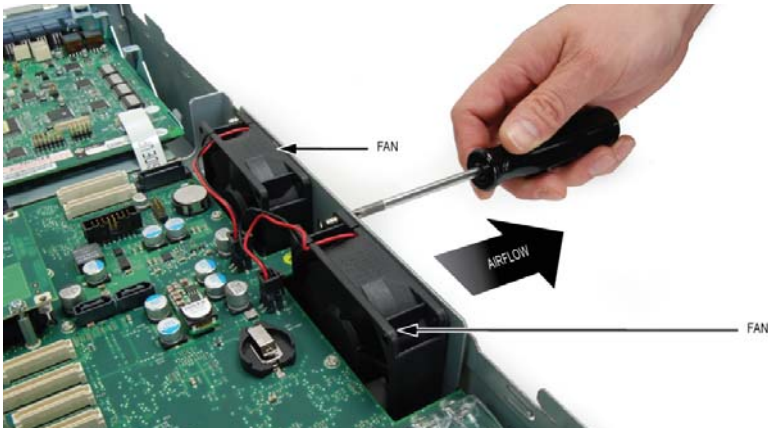
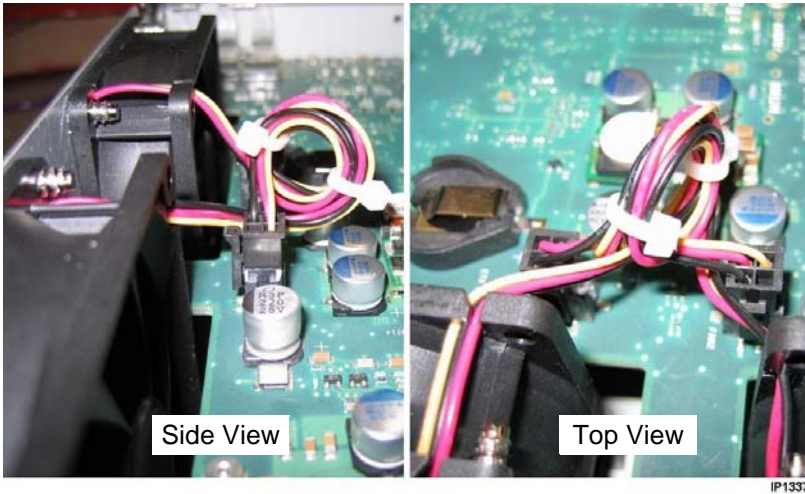

Figure 82: Fan Removal
Figure 83: Fan Cable Management (New Fan Assembly)
2. Remove the two screws that fasten the fan to the cabinet frame (see Figure 82).
Note: The fan depicted in Figure 82 is the early version. The new version uses longer cables that must be tied off as shown in Figure 83.
5. If you have a new fan assembly with longer cables, loop and tie them together using the supplied cable ties as shown in Figure 83.
2. Using diagonal cutters, clip the tie-wrap around the fan and ethernet cables; see (1) in Figure 82. Take care to avoid cutting the cables.
3. Disconnect the two fan power cables from the main board; see (2) in Figure 82.
4. Remove the four screws that fasten the fan assembly to the cabinet frame; see (3) in Figure 82.